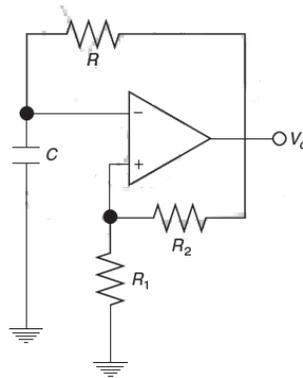

Figure 1: Astable Multivibrator
For your ready reference, we have included the block diagram of the astable multivibrator in Figure 1 below.
2.4 In Figure 1, lift R_1 to +5V potential (connect R_1 to +5V instead of ground). What happens to the astable action and highest frequency of the multivibrator? Submit the readings and also the transient response.